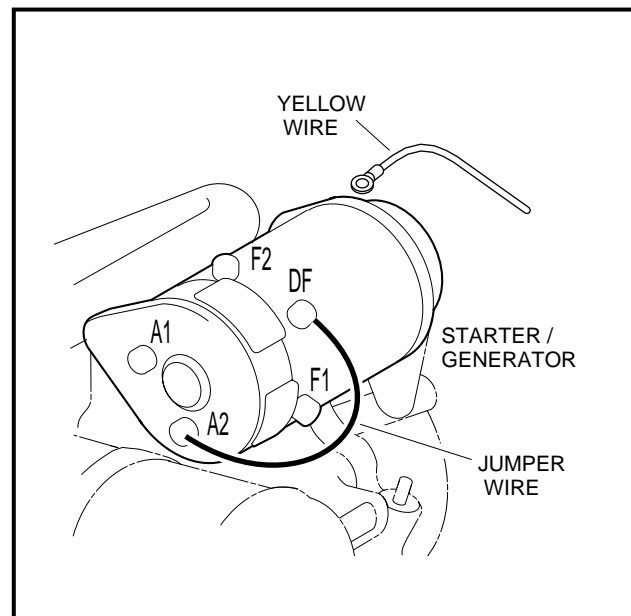

Figure 11-34 Jumper Wire Ground – DF to A2
3. Disconnect the yellow wire from the DF terminal on the starter/generator. Cover the connector on the yellow wire to make sure the yellow wire will not short to ground. Then, using a jumper wire, ground the DF terminal to the A2 terminal (**Figure 11-34, Page 11-29**).